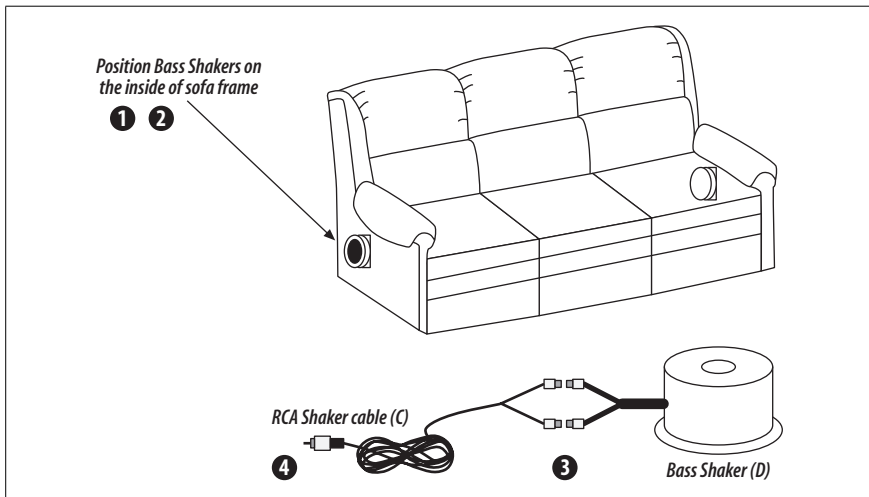

Figure 5-5. Positioning shakers on sofa
2. Mount the shakers (D) from the inside of the frame, as shown in Figure 5-5. Use the provided Phillips screws (H).